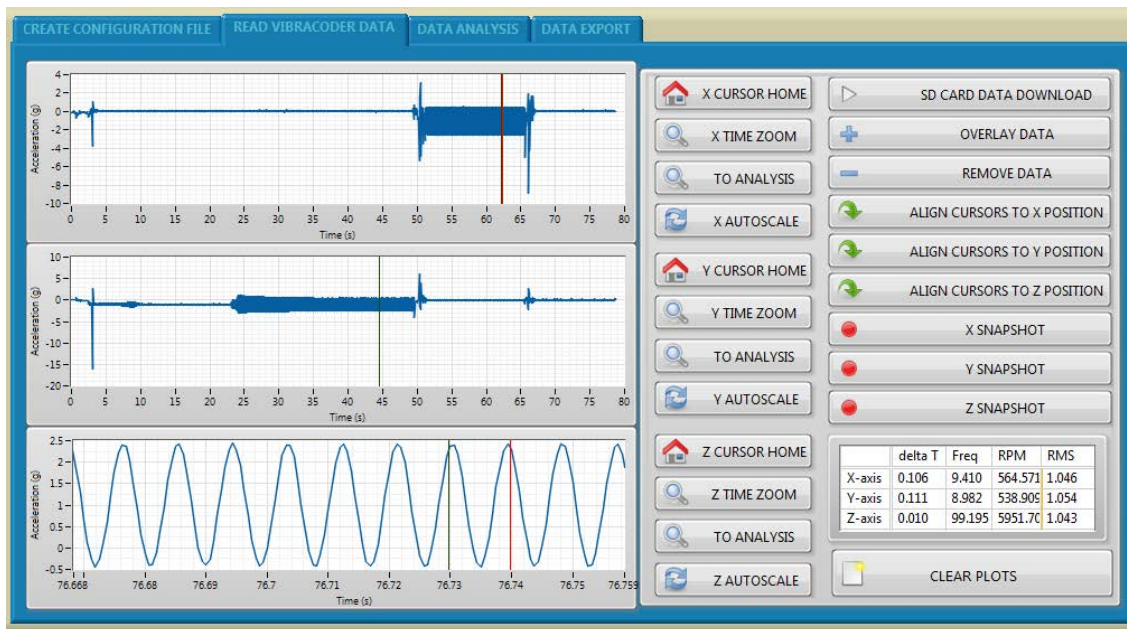

Figure 10: Axis Z data of 100Hz sinusoidal vibration at 1 g RMS.
6.6 The data table below shows the immediate cursor information for each axis: delta T, Frequency (Calculated based on cursor positions when they are located on one period), RPM (Calculated based on cursor positions when they are located on one period), and RMS value of the signal between cursors. See *Figure 10* for example: